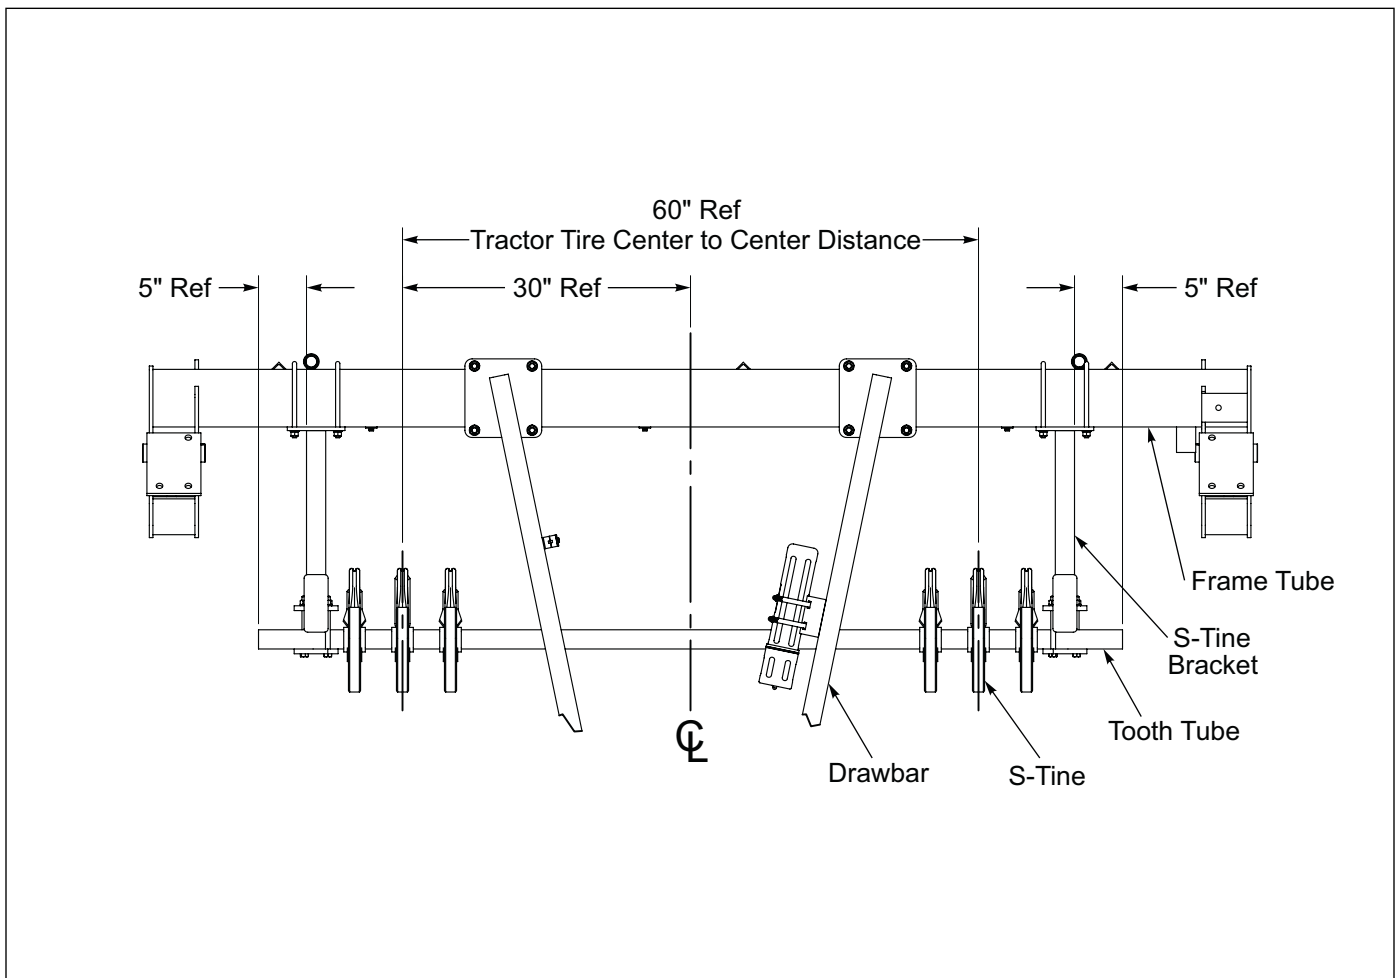

Figure 2-48: S-Tine Mounting Dimensions
2. Attach the Tooth Tube to the S-Tine Brackets approximately 5 inches from each end of the Tooth Tube with Straps, 1/2-13 x 6 Bolts, Lock Washers and Nuts. See Figure 2-48.